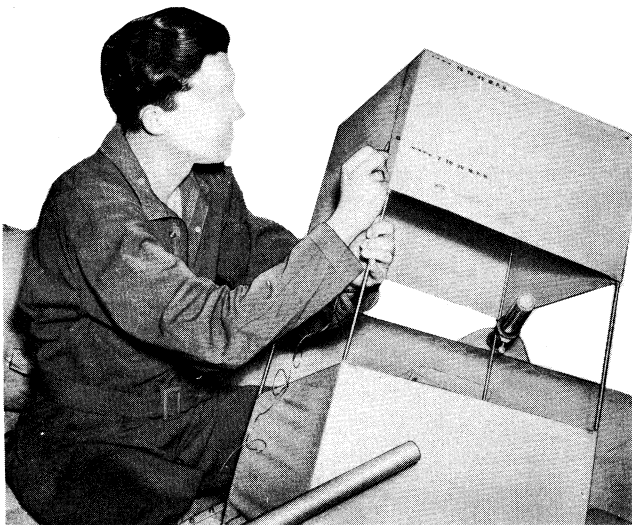

Figure 18—Kite 277-A or M-357-A,
f. If you have Kite M-357-A (part of Radio Set SCR-578-B) which is divided in two, assemble by fitting the ends of the four longerons on one half into their respective sockets on the other half (see fig. 17) before proceeding with the instructions above. Be sure that the halves are pressed tightly together so that the locking mechanism holds them firmly in position. After assembling the kite, estimate the wind velocity. There are two eyelets on the kite, one at a corner marked "15 to 40 mph" and another further in near a marking "7 to 20 mph." Affix the antenna-wire swivel clasp into whichever of these two eyelets more nearly corresponds to the estimated wind velocity (see fig. 18). If in doubt, use the eyelet indicated for low-wind velocity. Exercising due caution, attempt to rise sufficiently in the boat to get the kite in the air without its falling into the water. The kite will be found a ready flyer in winds as low as 7 miles per hour. Always maintain a steady tension at the BRAKE to prevent the kite from dropping. On occasions it will be found more practicable to play out the wire by hand. For most efficient operation, play out ALL of the 300 ft. of antenna wire on the reel. Any reduction in length means a lowered efficiency of the transmitter. Make sure the antenna is not less